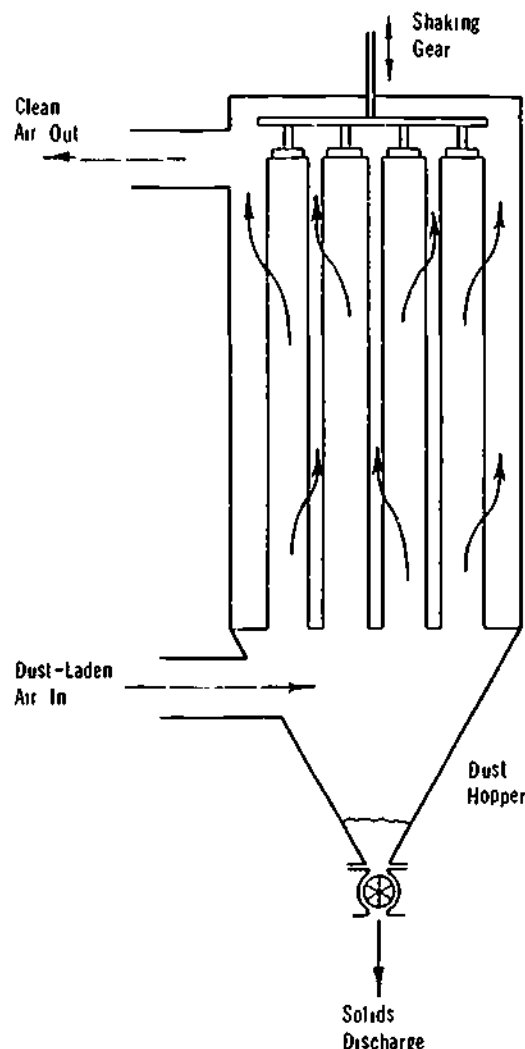

Figure 11-17. Mechanical Shaking
2. If a frame is used to support a bank of tubular or envelope bags, the dust can be dislodged from a complete bank at once by rapping or vibrating this frame (Figure 11-17).